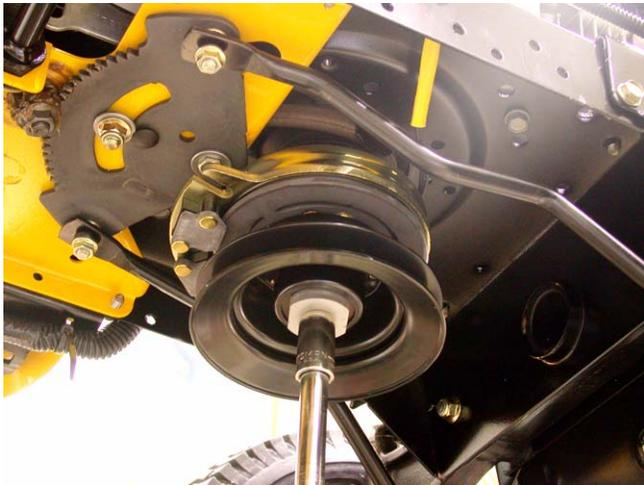

Figure 17.12
17.12. Remove the bolt that holds the PTO clutch to the crankshaft using a 5/8" wrench. See Figure 17.12.